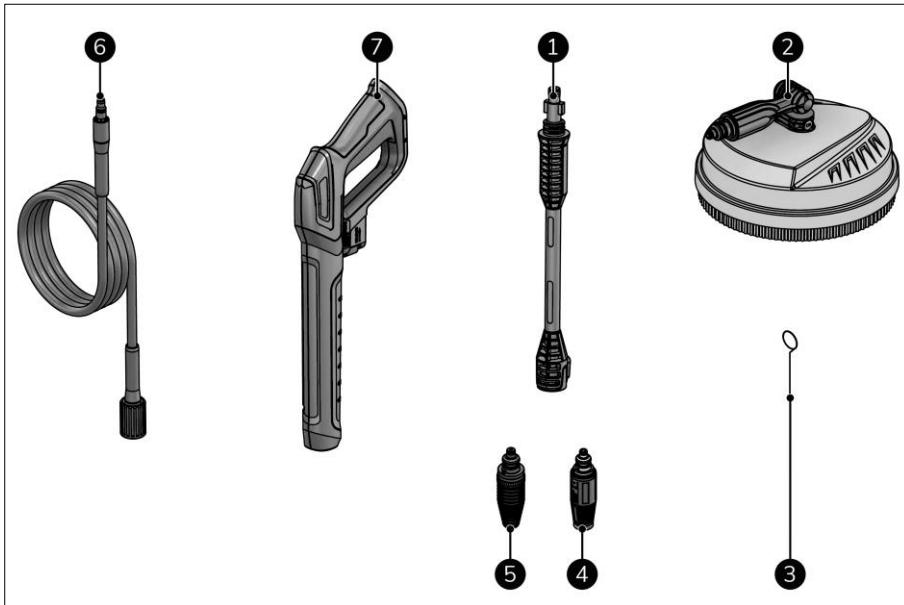

Figure 5
This device contains the following accessories (Figure 5):
1. Hold the jet gun (Figure 5, pos. 7) with both hands.
2. Place the floor cleaner (Figure 5, pos. 2) on the surface the be cleaned.